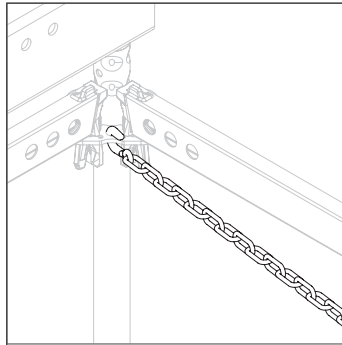

Fig. A10.02c
3. Attach the anchor chain (**37**) to the leg. (Fig. A10.02c)